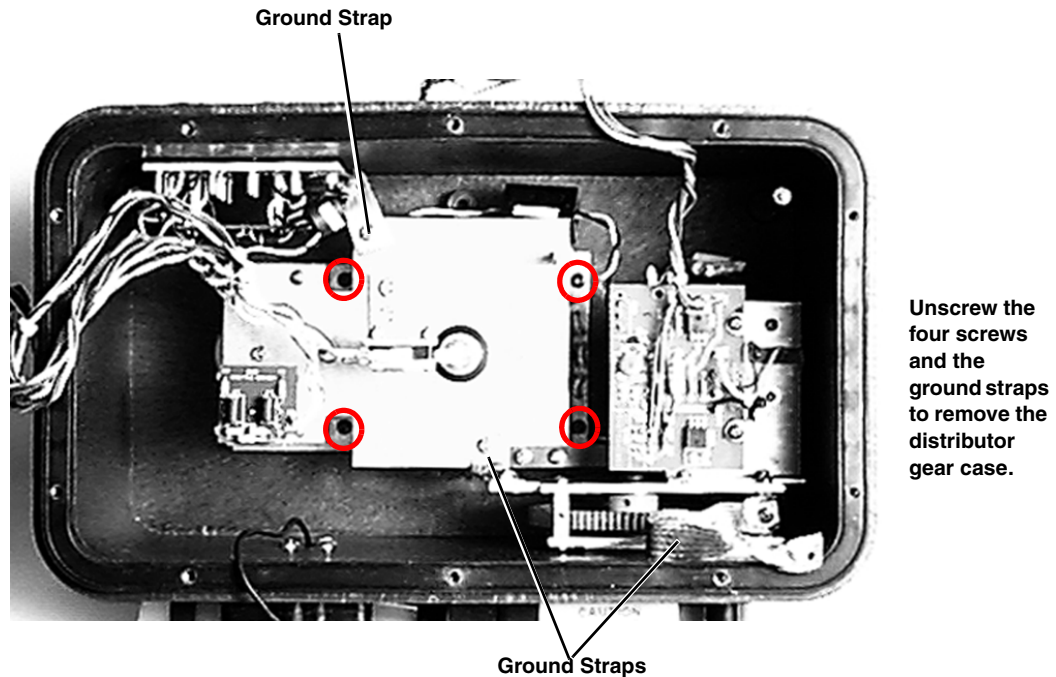

Figure 6-5 Distributor and Pump Gear Case Removal
4. The distributor gear case can be removed from the control box by removing the four screws and the ground straps shown in Figure 6-5.